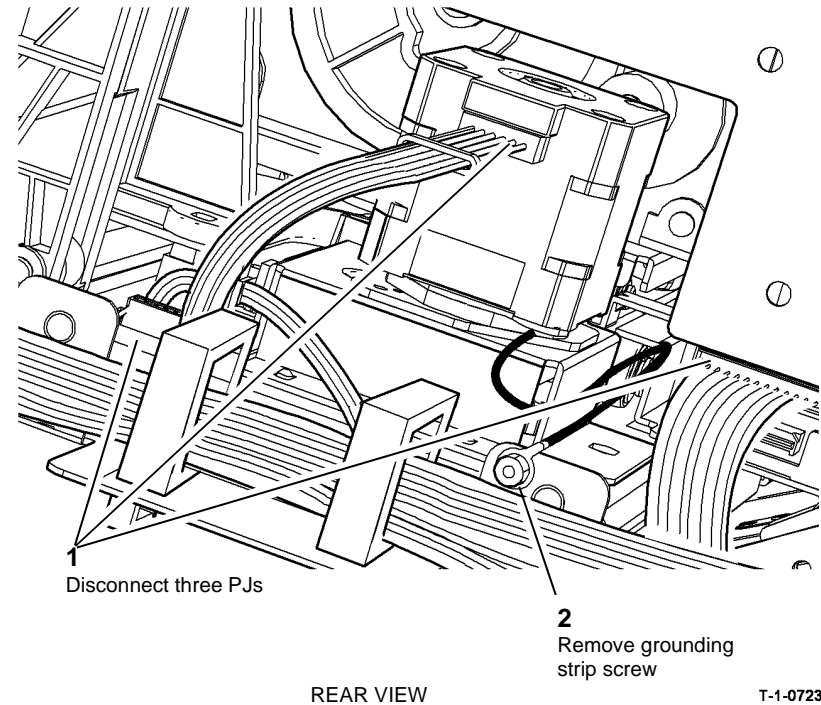

Figure 1 Disconnect PJs and remove screw
6. Figure 1. At the rear of the HVF, disconnect three connectors and remove one screw securing the grounding strap.